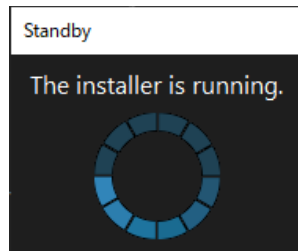

Fig.1.6 Standby Window
- 4) The standby window (Fig. 1.6) is displayed. Wait for the installation to launch.